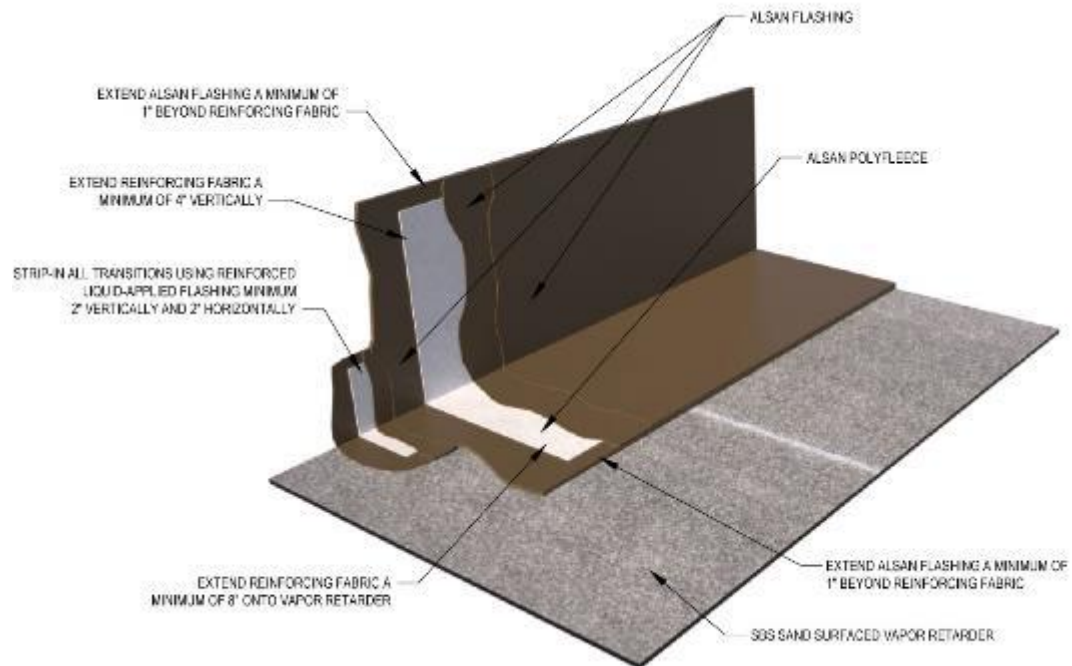

Figure 4.2a ALSAN® FLASHING Wall/Curb Flashing on Vapor Retarder
- SOPREMA® ALSAN® FLASHING liquid-applied, reinforced flashing is recommended for SBS modified bitumen vapor retarders to seal roof transitions, terminations and penetrations. Refer to Figures 4.2a through 4.2b.
- Ensure ALSAN® POLYFLEECE extends a minimum of 4 in vertically and 8 in horizontally at roof terminations, transitions and penetrations. Refer to Figures 4.2a through 4.2b.